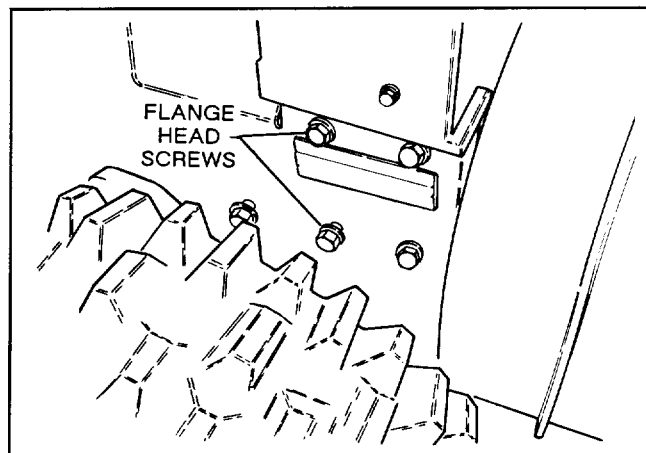

Figure 6
7. Remove and discard two flange head cap screws securing idler pulley assembly to engine frame (Fig. 6).